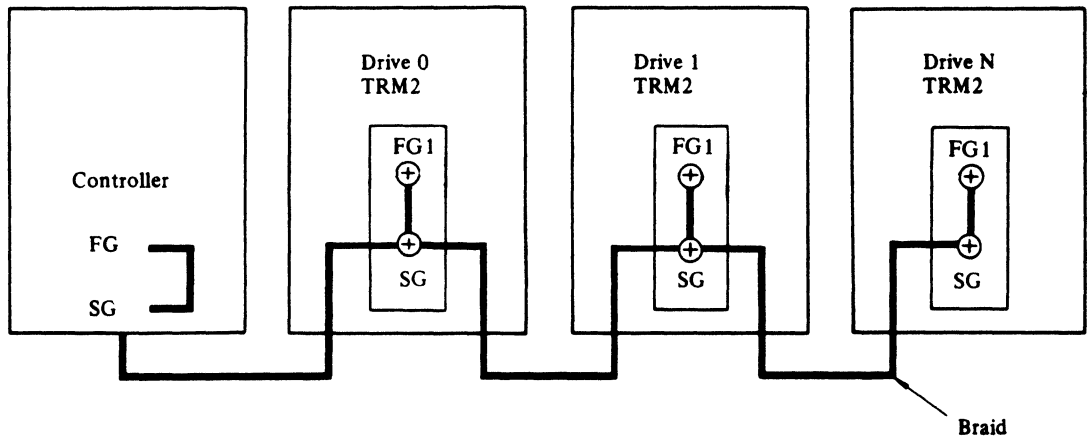

Fig. 4.3-2 SG/FG1 Common
- (b) Leave SG connected to FG2 (shipping configuration) and connect a flat braid wire to controller ground. If daisy-chained, daisy-chain the braid from SG to SG as shown in Figure 4.3-2.
(3) AC Considerations